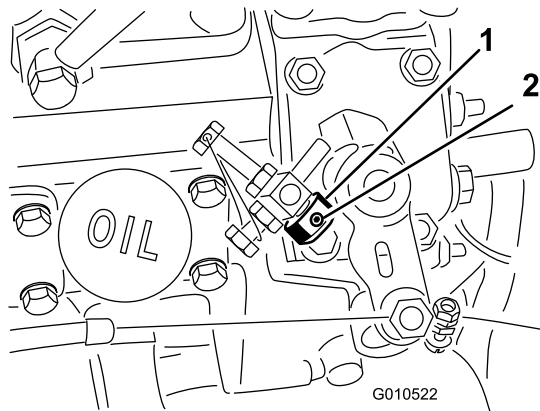

Figure 5
1. Loosen the set screw on the throttle stop (Figure 5).
2. Slide the throttle stop onto the high idle stop screw (Figure 5). The chamfered end of the throttle stop is to be positioned outward.